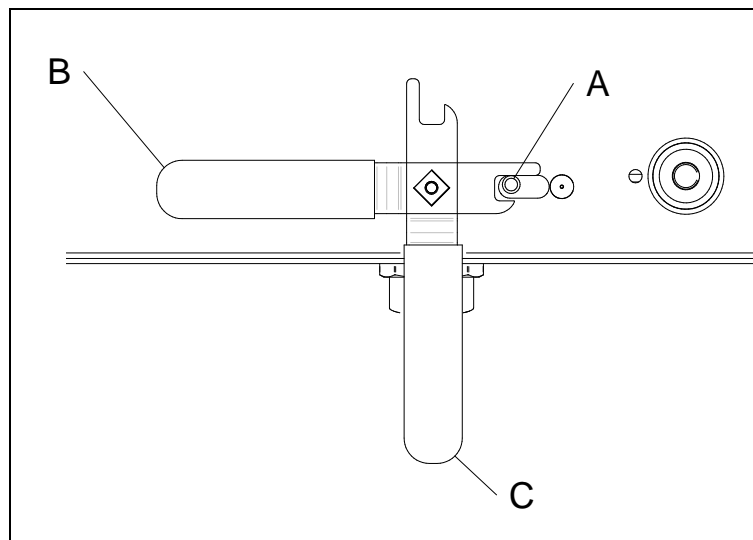

Fig 3
To open the tap slide the latch (A) to the right and rotate the handle from position (B) to position (C) (Fig 3).